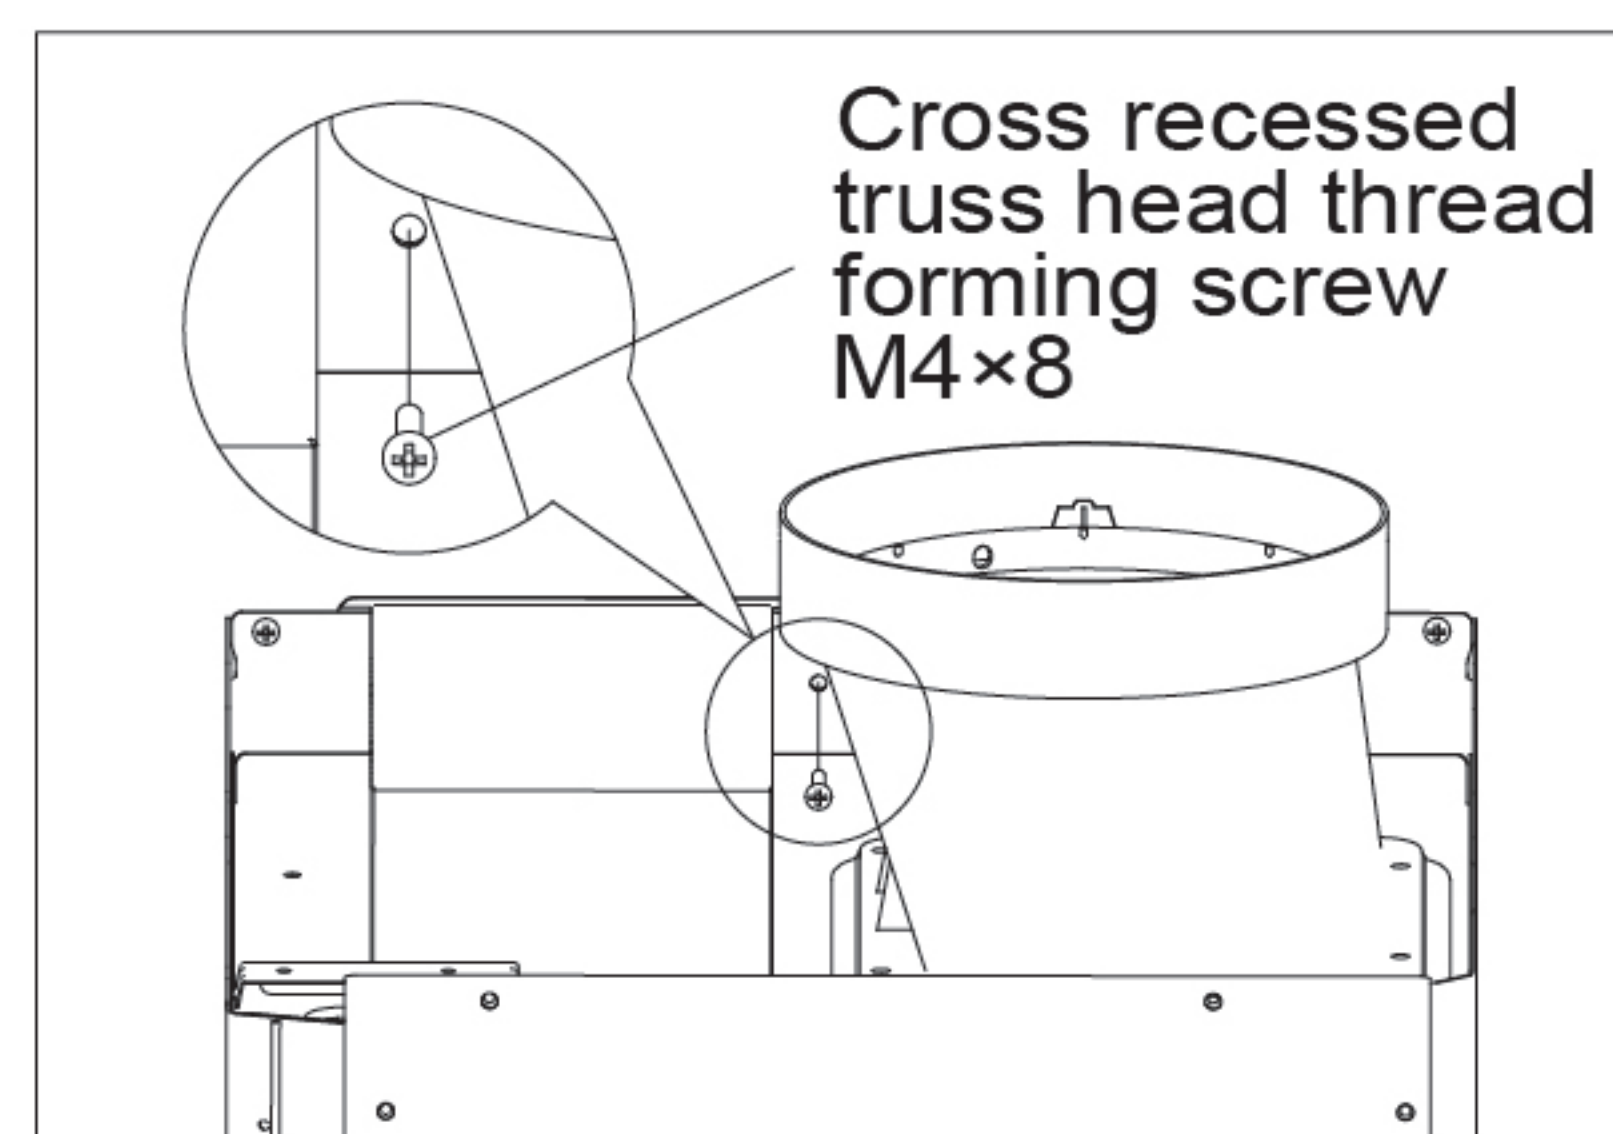

Fig.19
11. Connect and fix the fan frame to the hook with M4×8 tapping screws (as shown in Fig. 19) .